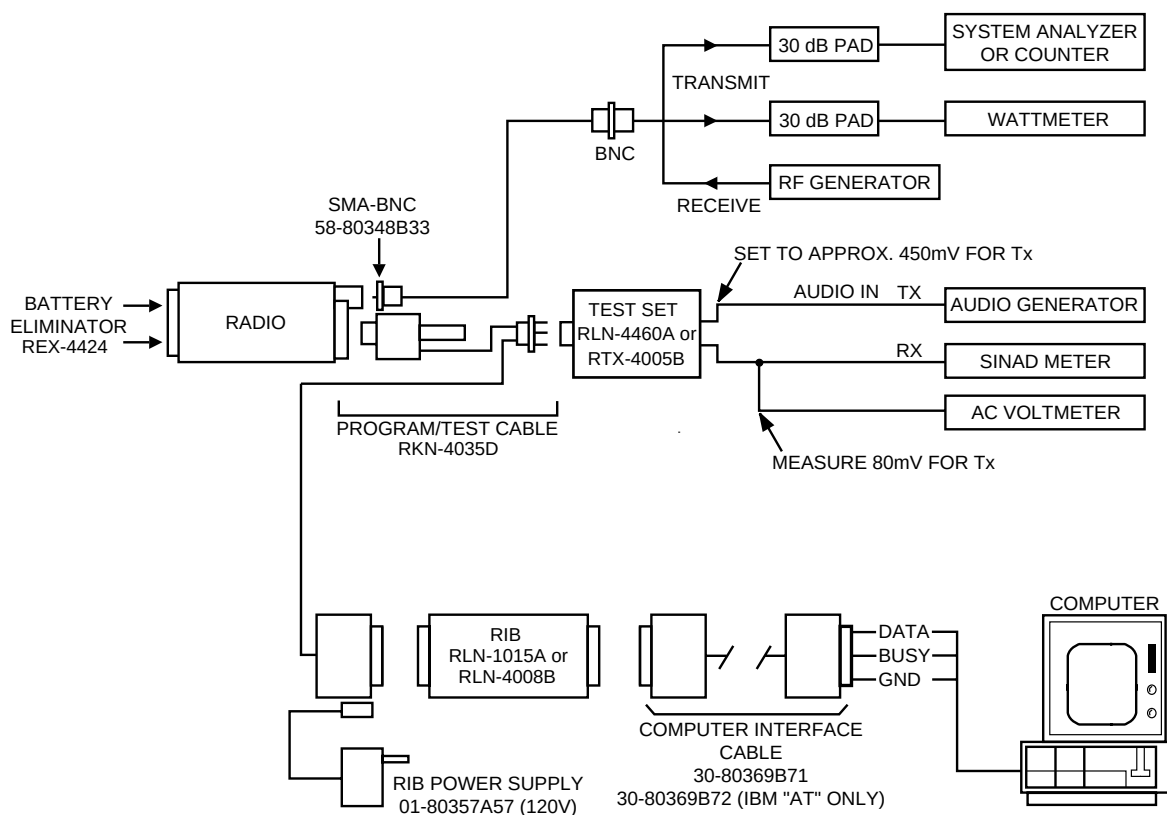

Figure 1 Radio Alignment Test Setup
A personal computer (PC) and radio service software (RSS) are required to align the radio. Refer to the applicable RSS manual for installation and setup procedures for the software. To perform the alignment procedures, the radio must be connected to the PC, radio interface box (RIB), and a universal test set as shown in Figure 1.